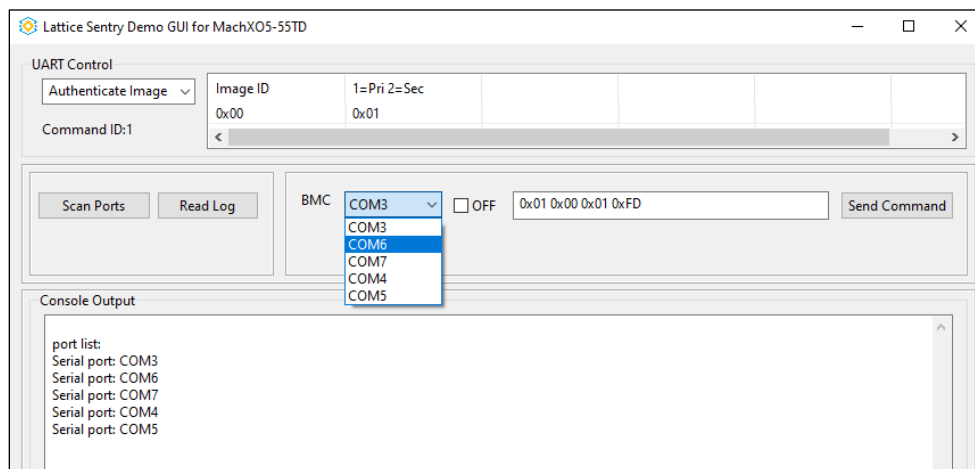

Figure 9.6. Lattice Sentry Demo GUI Select BMC Port
- Click the drop-down menu next to **BMC** and select the lower numbered port for the USB cable connected to J3 (Figure 9.6).